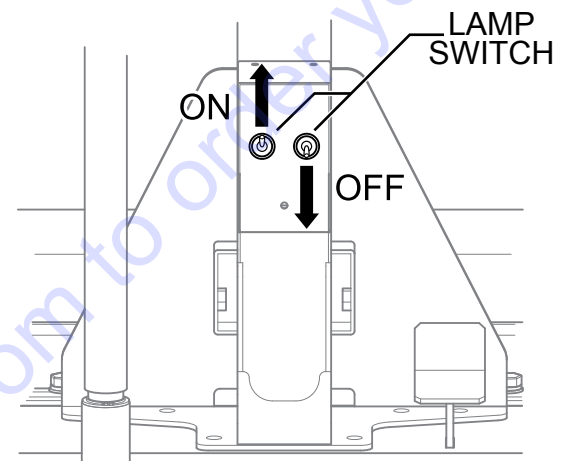

Figure 15. Turning ON Lamp Switches
6. On the GB43LED, place the left lamp switch to the ON position to turn on the upper lamps. To turn on the lower lamps, place the right lamp switch to the ON position. Place both lamp switches to the ON position to turn all the lamps on (Figure 15).